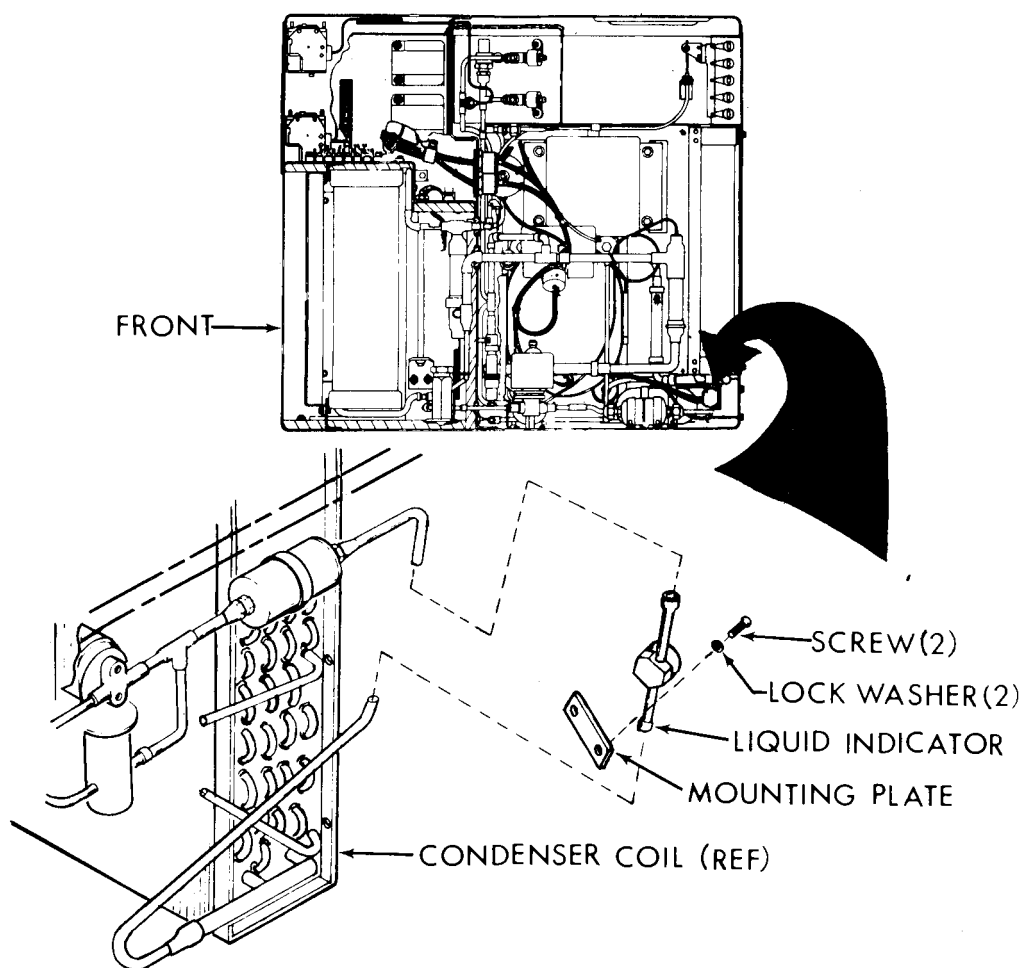

Figure 5-20. Liquid Indicator
a. Removal. (See fig. 5-20.)
(1) Disconnect power at power source.
(2) Remove top rear cover (para 4-11).
(3) Discharge and purge the refrigeration system per paragraphs 5-11 and 5-12.
(4) Remove screws, lock washers, and mounting plate.
(5) Debraze joints and remove liquid indicator.